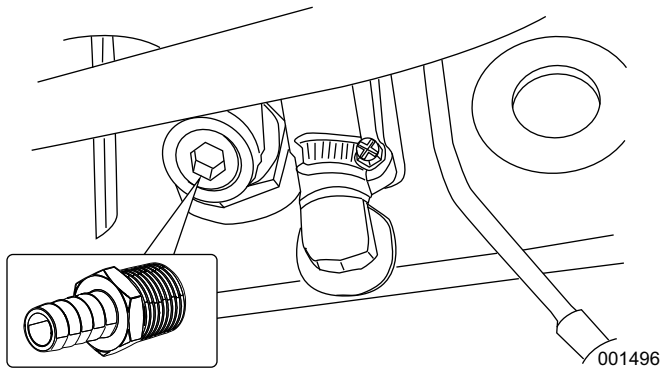

Figure 8. Coolant Passage
21. See **Figure 8**. Apply suitable pipe sealant to threads of 1/2 inch fitting and install into reducer elbow in coolant passage.